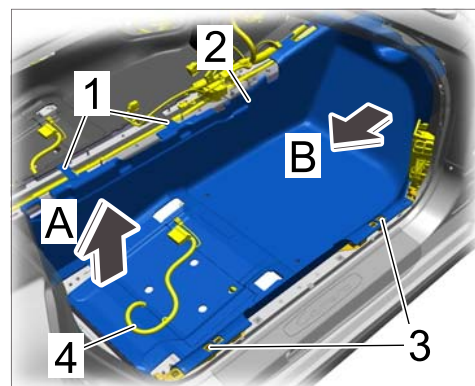

Figure 3
- 1.9 Unclip carpet on the driver's side and passenger's side ⇒ *Figure 3 -2-* from the holder ⇒ *Figure 3 -3-*.